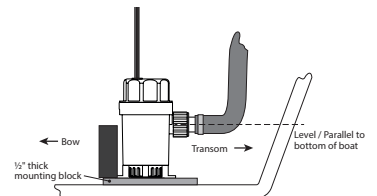

Fig. 1
2. Make sure the hull thickness is at least 1/2" thick. If not, place a block of 1/2" marine plywood (slightly larger than pump base) under the pump. Glue the plywood to the hull with a waterproof adhesive (epoxy, silicone adhesive, or fiberglass resin). See Figure 1. Mount the pump. If attaching the pump to wood, fasten with stainless steel screws. If attaching the strainer to metal or fiberglass, first mount a wooden block and then fasten the strainer to the wooden block.